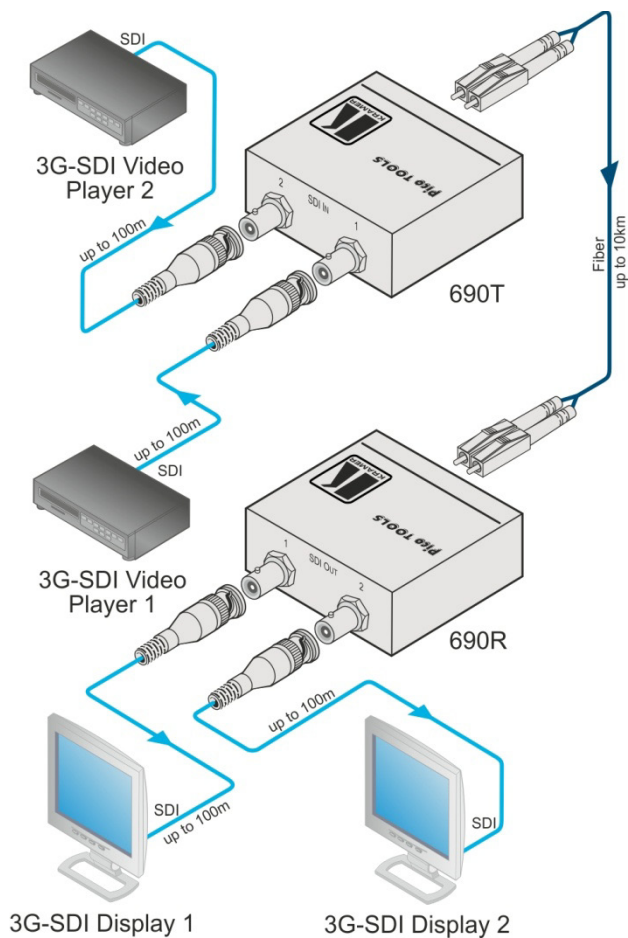

Figure 3: Connecting the 690T and/or 690R
To connect the **690T** and the **690R** as illustrated in the example in Figure 3:
4. Connect the power adapter to the 5V DC socket and to the mains electricity for both the **690T** and the **690R** (not shown in Figure 3).